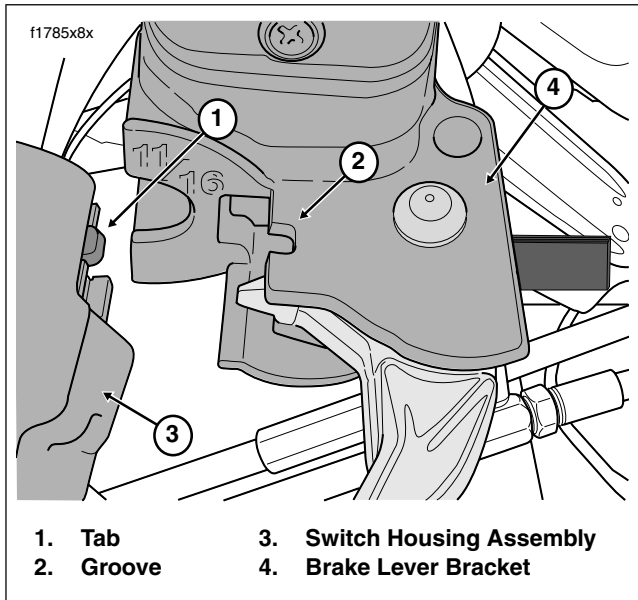

Figure 8-92. Fit Brake Lever/Master Cylinder to Right Handlebar Switch Housings
9. Position the brake lever/master cylinder assembly inboard of the switch housing assembly engaging the tab on the lower switch housing in the groove at the top of the brake lever bracket. See **Figure 8-92**.